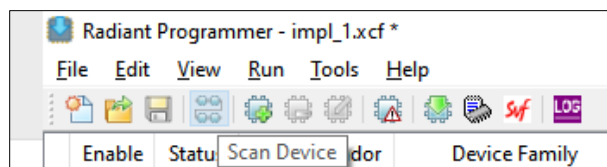

Figure 6.10. Scan Device Icon on Radiant Programmer
6. If the **Device Family** shows as **Generic JTAG Device**, click **Scan Device**, as shown in Figure 6.10, to update the **Device Family** information automatically.